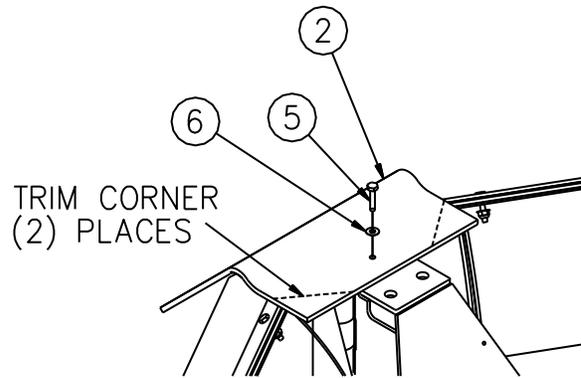

Figure 4. Center Flap Installation
8. Attach Center Belting (2) to Rubber Belting (1) using four 1/4" Bolts (6), eight 5/16" Fender Washers (5), and four 1/4" Lock Nuts (7).
9. Trim the corners of Rubber Belting (1) to be flush with the bottom of Center Belting (2). Reference Figure 4.
11. Drill a hole that is centered and approximately 1-1/2" from the back of Center Belting (2).
12. Using 3/8" Bolt (5) and 3/8" Flat Washer (6), attach Center Belting (2) to the top of Center Section by utilizing the threaded hole that is located behind the center hinge pin.
13. Remove any excess material from the lower back of Center Belting (2) so that it does not interfere with the plow. Reference Figure 4 above.